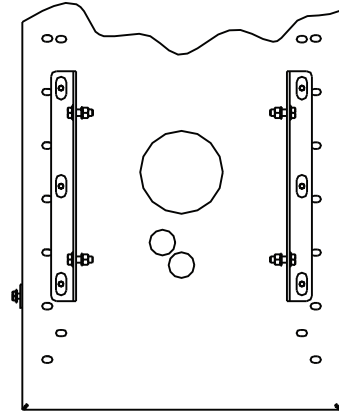

Figure 2 - Mounting Brackets in Position B
2. Using the hardware provided, assemble the two brackets to the back cover as shown in Figure 2. Note that the brackets are mounted so that the angles of the brackets are mounted to the inside. Do not fully tighten these bolts.